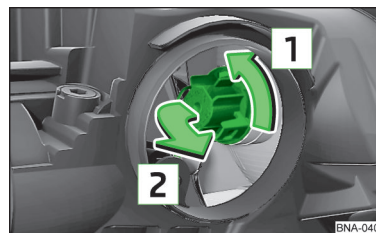

Fig. 108
- › Turn the pedestal with the light bulb in the direction of arrow **1** and pull out in the direction of arrow **2** » fig. 108.